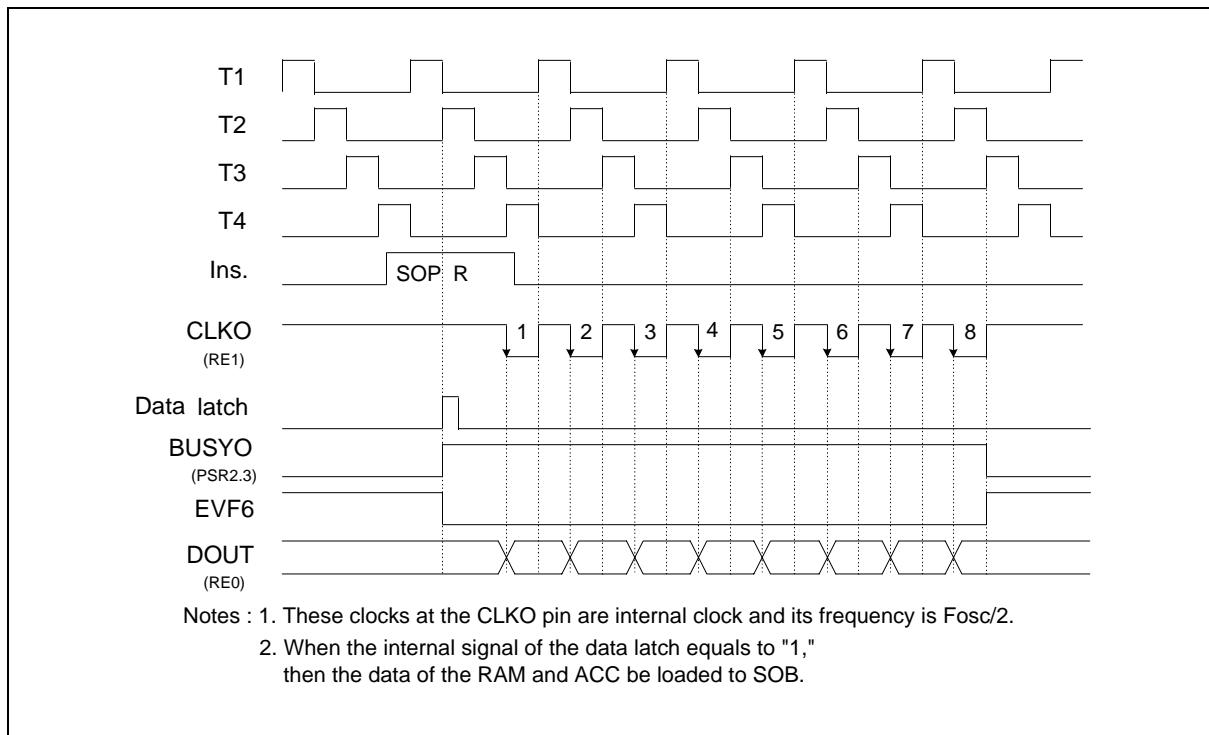

Figure 12. Timing of the Serial Output Function (SOP R)
(2) When the SOP R instruction is executed, the data will be loaded to the serial output buffer (SOB) and bit 3 of port status register 2 will be set to "1" (BUSYO = 1). Then the CLKO pin will send out 8 clocks and the data in SOB will be sent out at the falling edge of the CLKO pin. After the 8 clocks have been sent, BUSYO will be reset to "0" and EVF6 will be set to "1." At this time, if IEF.6 has been set (IEF.6 = 1), an interrupt is executed; if HEF.6 has been set (HEF.6 = 1), the hold state is terminated. Users can check the status of PSR2.3 (BUSYO) to know whether the serial output process is completed or not. If a serial output process is not completed, and the SOP R instruction is executed again, the data will be lost. The timing is shown in Figure 12.